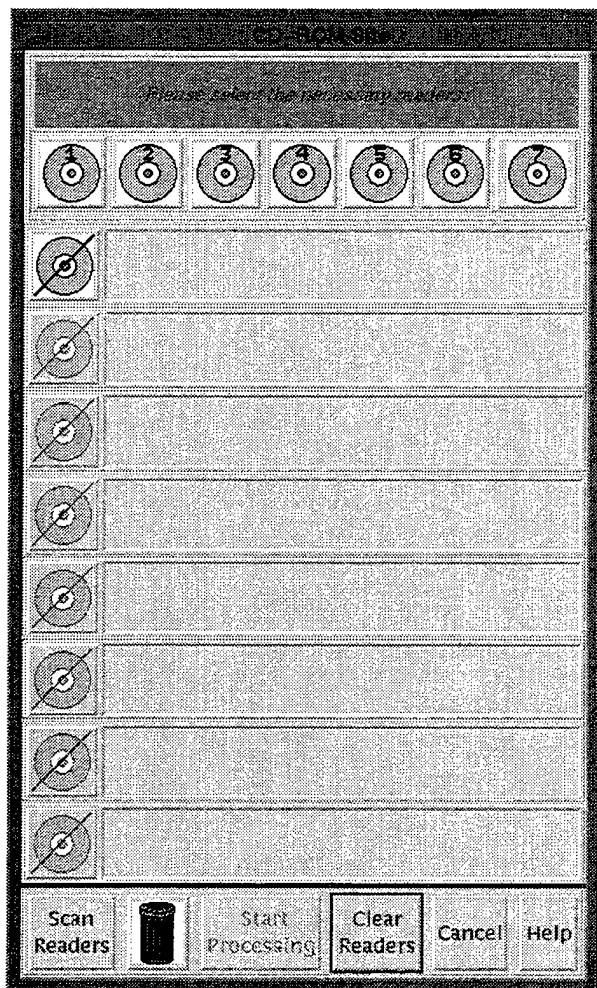

Fig. 74 — CDROM site window
- (1) Load the required CD(s) into one of the six slots of the CD changer or in the internal CD drive. For certain functions (e.g., viewing CAC data from CD), MMC will specify which CD to load.
- (2) MMC will pop up the **CDROM Site Window** (Fig. 74) listing all seven CD slots, including six in the CD changer (CDROM1 through CDROM6) and the Alpha's internal CD drive (CDROM7).
- MMC will pop up the **CDROM Site Window** (Fig. 74). Currently, MMC will only allow a user to log in one CD at a time, so select the first CD reader containing a CD to be logged, click on *Scan Readers*, then *Start Processing*. MMC may prompt for a descriptive title for each CD (e.g., "Continental US at TPC scale"). Logging one CD takes about 1 min.
- (6) After selecting the CAC CD in the **CDROM Site Window** (Fig. 74), click on *Scan Readers*, then *Start Processing*. MMC will display the CAC data, centered on the selected point (step 4, above).
- MMC will also pop up the **CDROM Site Window** (Fig. 74).
- (7) Open the AOD image and review it:
- (8) Archive the AODI to CD: